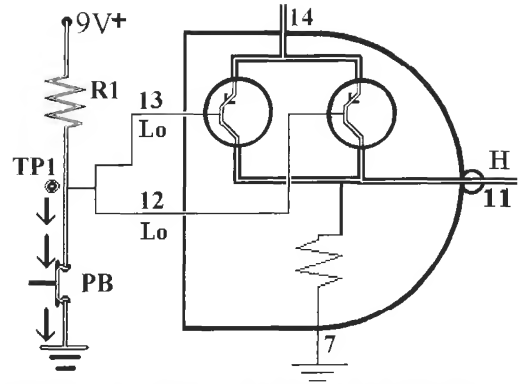

Figure L17-3
- Figure L17-3 shows that when you close the push button, the voltage through R1 flows directly to ground. Like water, the voltage and current always takes the easiest path.